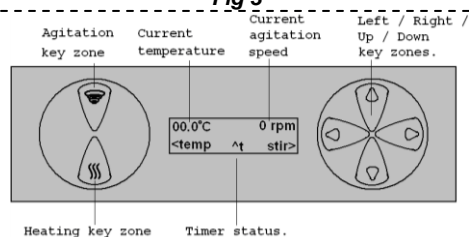

Fig 4
- 4 After 'Power-on' key board will illuminate and the front screen menu appear. **Fig 4**